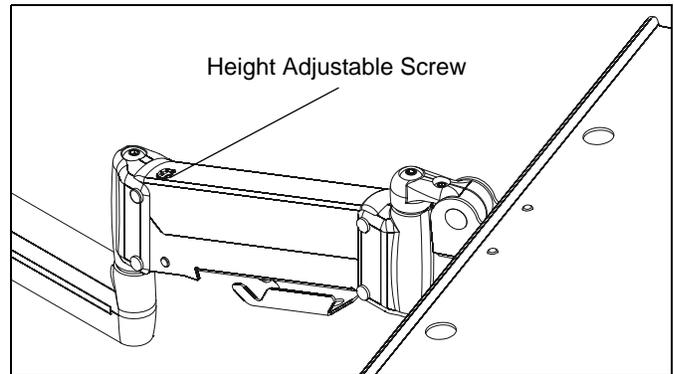

Figure 48
1. Using 5/32" hex key (AA), slightly loosen or tighten the adjustment screw as necessary. (See Figure 48)